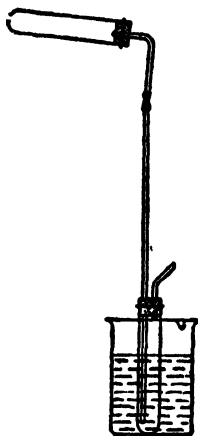

FIG. 32.
a. **Wood.** Take half of a hard glass test-tube full of sawdust and wood chips. Arrange the apparatus as in Fig. 32. The test-tube is inclined slightly downwards towards the mouth. The wide test-tube, in which the distillate is to be caught, is surrounded by cold water, and a nozzle is inserted in one of the holes in the stopper.